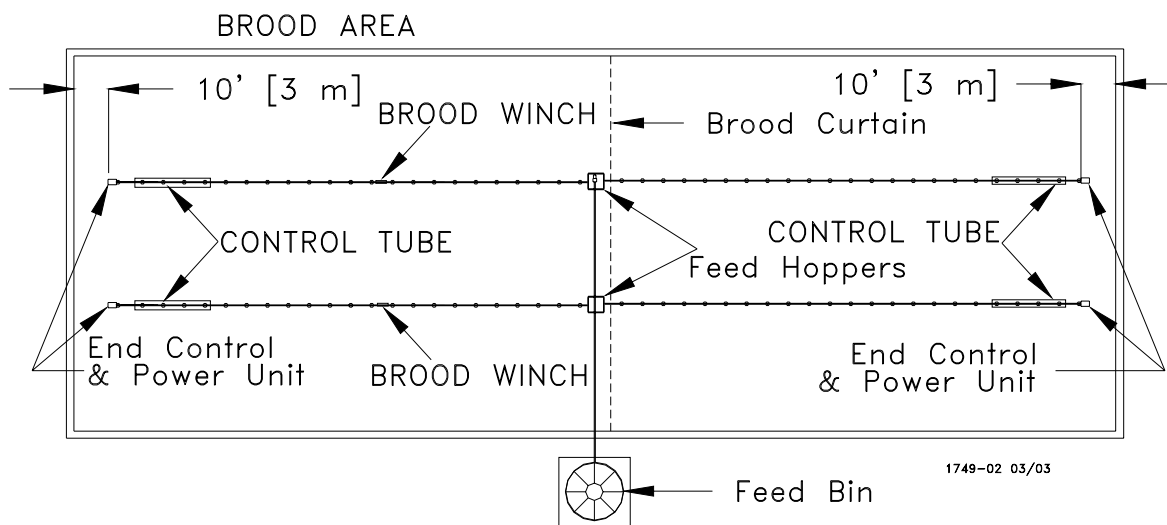

Figure 2. Component location diagram for systems over 400 feet [122 m]. (Top View).
- B. Systems with line lengths over 400' [122 m] should be split in the center, as shown in “**Figure 2. Component location diagram for systems over 400 feet [122 m]. (Top View).**” on page 6. This will reduce auger running time and eliminate the need for Mid-Line Controls for partial house brooding.